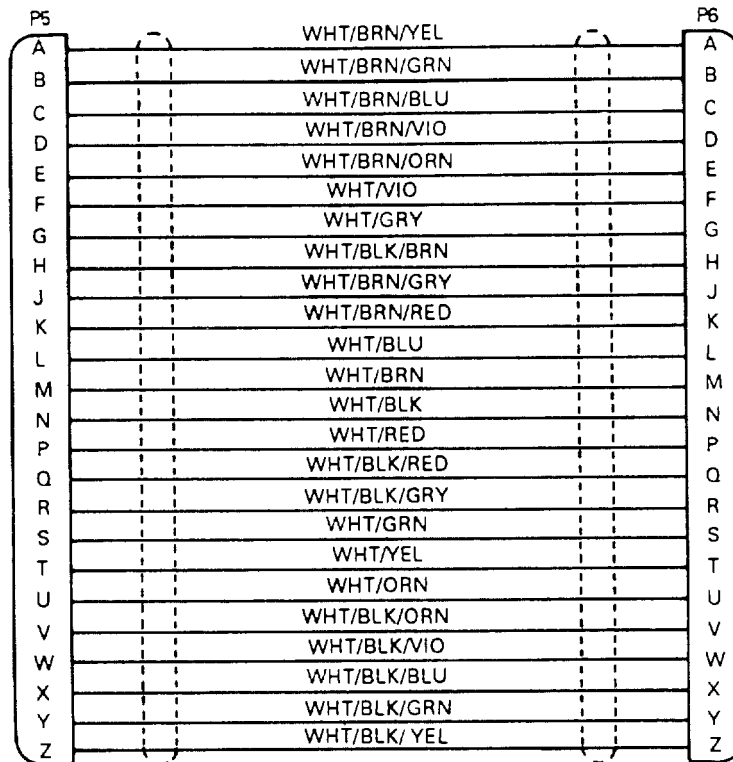

Figure 4-6. Control Cable Wiring Diagram.
4-20. **Control Cable Testing.** (See figure 4-6). The control cable connects the PDU at J6 to the ICC or CRG. A continuity test is used to detect faults in the cable.
- e. Repeat steps b through d for each remaining wire In cable Refer to figure 4-6 for correct ongoing and destination of each wire.